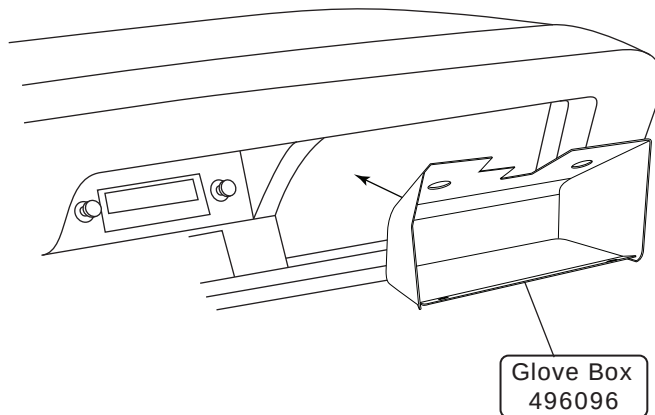

Figure 1
5. Install glove box in glove box compartment using OEM screws (See Figure 1, below).